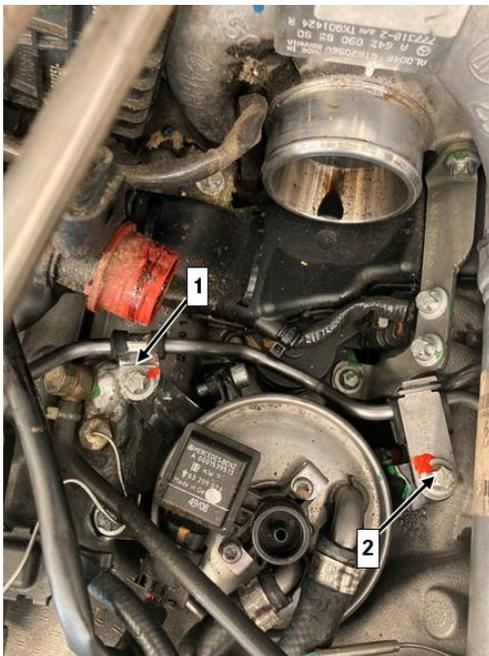

Figure 4
- i** The line from the left fuel distributor to the right fuel distributor is replaced by a **new** version (A 642 070 09 00) (**Figure 4**). A **new** clamp (**1, Figure 4**, (N 000000 006288)) with **new** bolt (**2, Figure 4**, (N 000000 001116 M6x19mm)). The old bracket on position (**2, Figure 4**) is reused and with a new Bolt (N 000000 001114 M6x15mm) fastened. The old bracket must be reinstalled as shown. Chafe-free routing must be ensured.